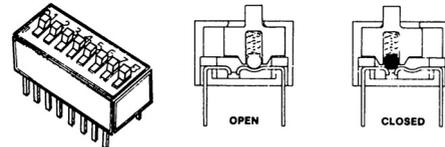

Fig. 9-14 DIP switches.
DIP (dual-in-line packaging) is also used with integrated circuits or chips and their packaging. DIP switches are small and have contacts that resemble those of an integrated circuit (IC) or chip. They are designed to be attached to a printed circuit board and soldered in place. As you can see from Fig. 9-14, these are very small and it takes a ballpoint pen or something equally small to cause